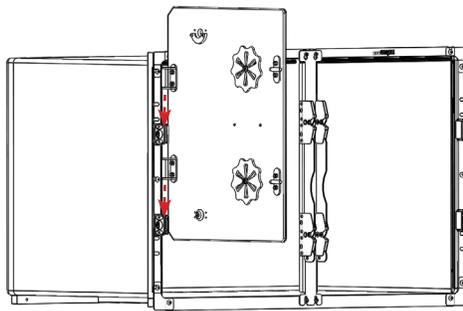

FIGURE 2.20 - Door Installation
STEP 7: Install the O₂ Door by holding the door hinge pins/bushings above the cage hinges at a 90° angle to the face of the cage. Slide the hinge pins/bushings down into the hinges. See FIGURE 2.20